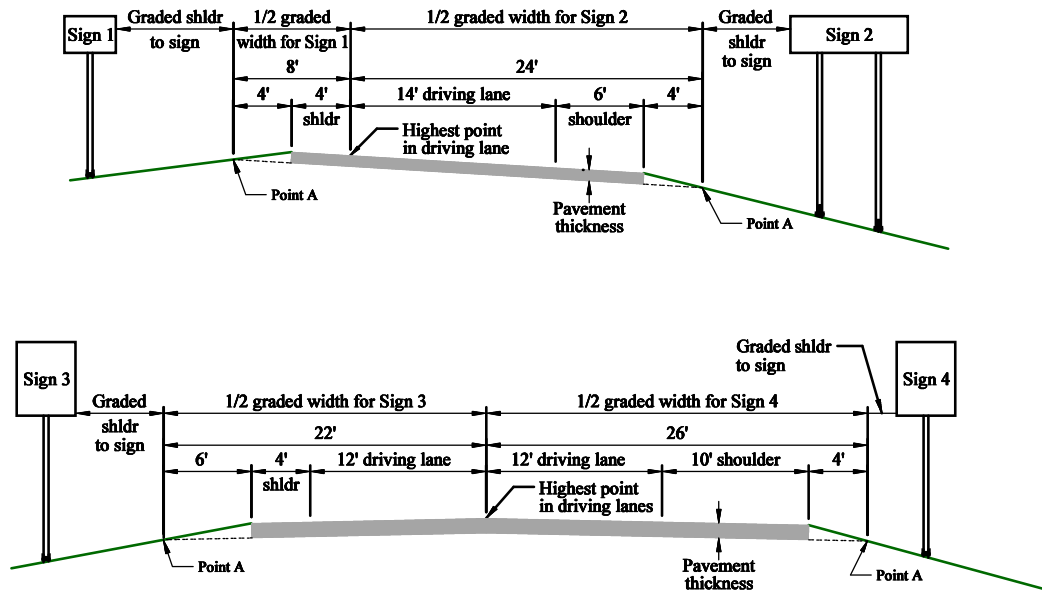

Figure 8 – Graded Width Examples for Pipe/W-Shape Supports
43. **Graded Width:** The graded width is double the distance, in inches, from the highest point in the driving lane(s) to the point where the bottom of the pavement depth intersects the inslope (Point A in Figure 8.) The program assumes that the roadway is symmetrical and if it is not, it has to be adjusted as shown in the examples below. For Sign 2, the graded width is calculated as $24' \times 2 = 48'$ or $576''$.
44. **Graded Shldr to Sign:** The distance, in inches, from the edge of the graded width to the edge of the sign(s) closest to the roadway. For example, the graded shoulder to sign distance for Sign 1, in Figure 8, can be calculated as 18' (the minimum required horizontal distance, see ND Standard Drawing D-754-1) minus 4' (shoulder width) minus 4' (distance from the shoulder to Point A.) Therefore, the graded shoulder to sign distance for Sign 1 is 10' or 120".